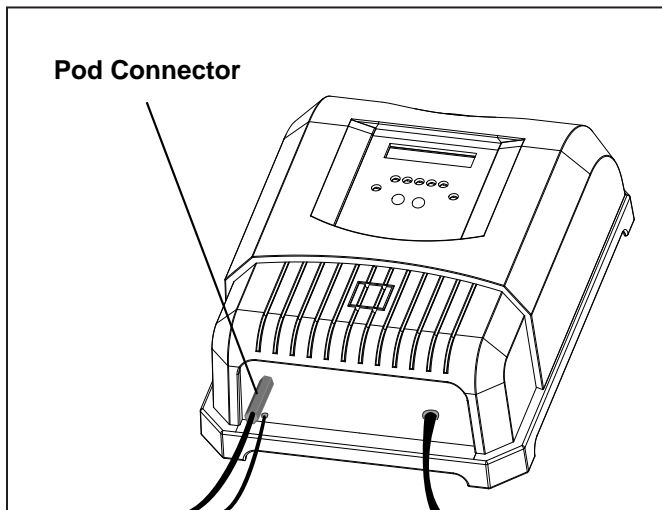

Figure 17. Pod Connector
17. Plug the pod connector into the power pack (see Figure 17).